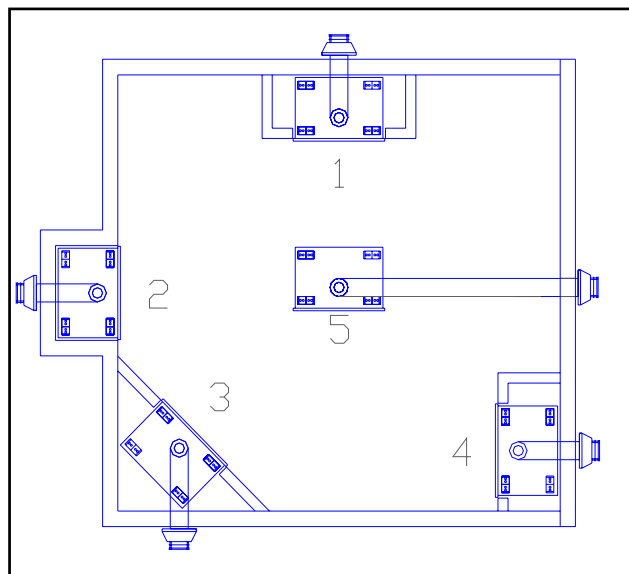

Fig. 1 – Installation Placement Options
- 5) The Alpine SE36 fireplace can be installed into many different applications. See Figure 1 for examples.